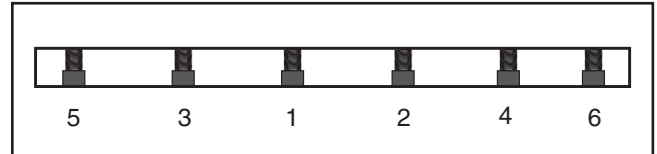

Figure 46. Gib bolt tightening sequence.
8. Rotate the cutterhead to the first knife you started with. Slightly tighten all the gib bolts, starting at the ends and working your way to the middle by alternating left and right (**Figure 46**). Repeat this step on the rest of the knives.